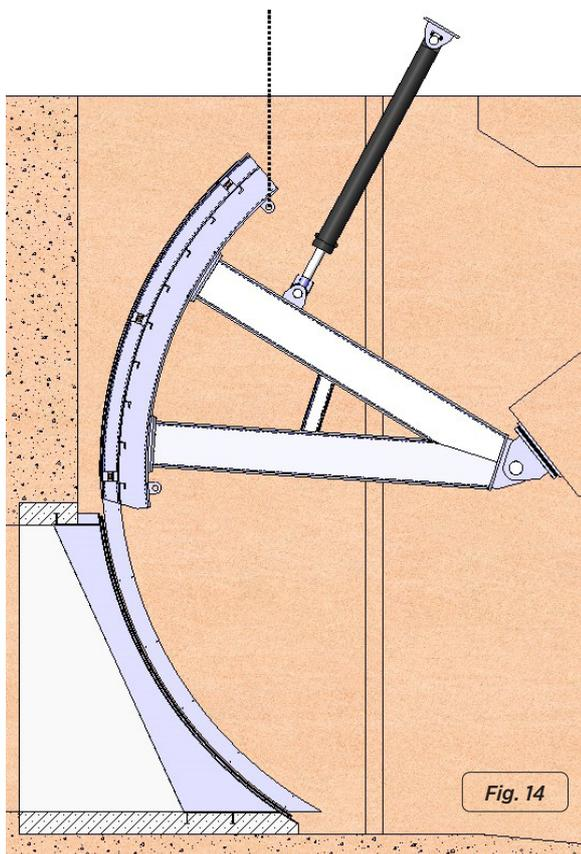

Fig. 14
- Dismount the hydraulic cylinder attachment to the civil engineering work and, with the help of a crane, raise the stopboard enough as to be able to mount the upper seal on the mouth (fig. 14)
5. With the help of the crane, raise the stopboard enough as to be able to remove the upper mouth seal (fig. 14).